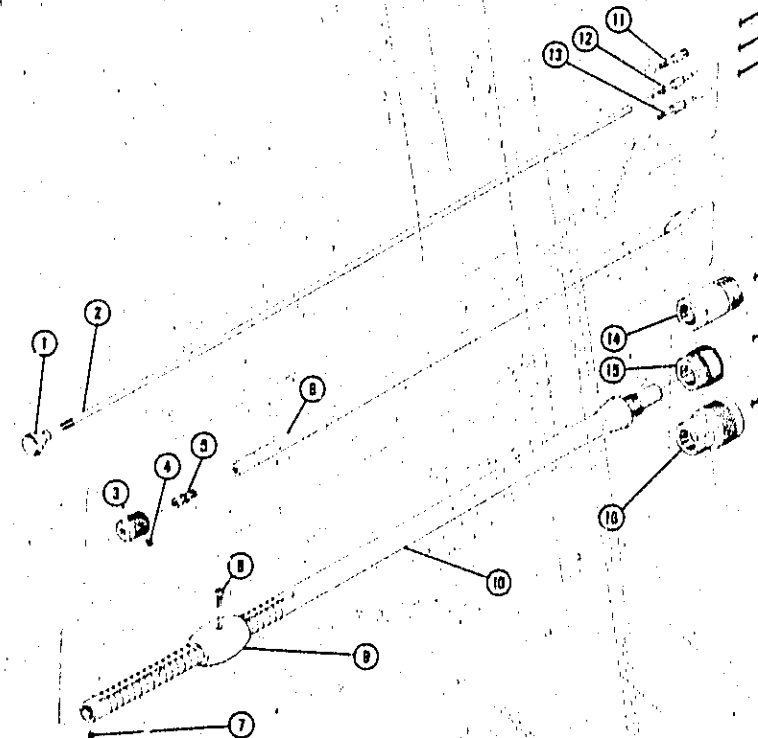

Figure 5. HP 905A Exploded View
15. To change the connector on the load, refer to Figure 5 and proceed as follows:
a. Loosen the lock (3) by turning lock in the direction which will align the setscrew in the lock and the setscrew in the body and retract the center conductor (2).
c. Remove the center contact pin by grasping the pin (11, 12, or 13) in one hand and turning the knob (1) counterclockwise with the other. Do NOT use pliers or wrenches to hold the center conductor pin.
32. Most parts, with the exception of the load element assembly, are individually replaceable. Since the parts are cemented together the load element assembly must be replaced as an assembly. To disassemble, refer to Figure 5 and proceed as follows:
- a. First loosen the lock (3).
- b. Remove completely the setscrew (7) in the body. Do NOT remove the setscrew in the lock at the very end.
- c. Remove completely the capcrew (8) in the barrel (9). The load element may now be removed. Do not remove the setscrew in the lock unless it is necessary to work on the lock itself as the setscrew is so small it can easily be lost.
(See Figure 5)